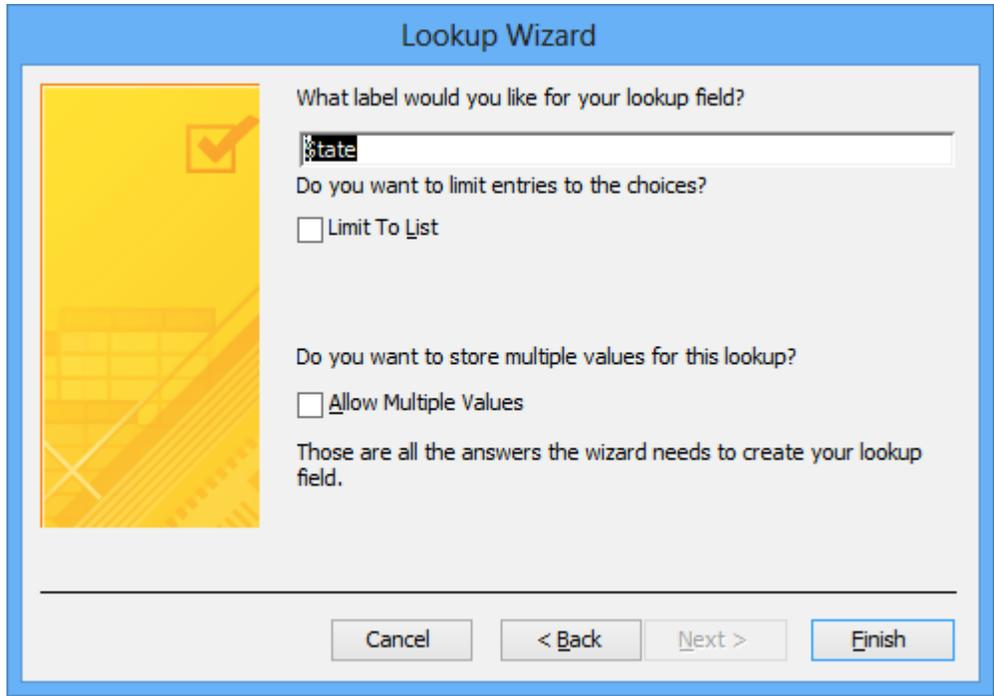

Figure 47: Final Lookup Wizard Window
3. **Name the *Lookup* Column:** The final wizard window asks you to name the *Lookup* Column. Type “State” and click **Finish** (Figure 47). Also view the appearance of the field property **Lookup** tab (Figure 48). Figures 43 and 44 show the final design view and the datasheet of the *Vehicle* table.